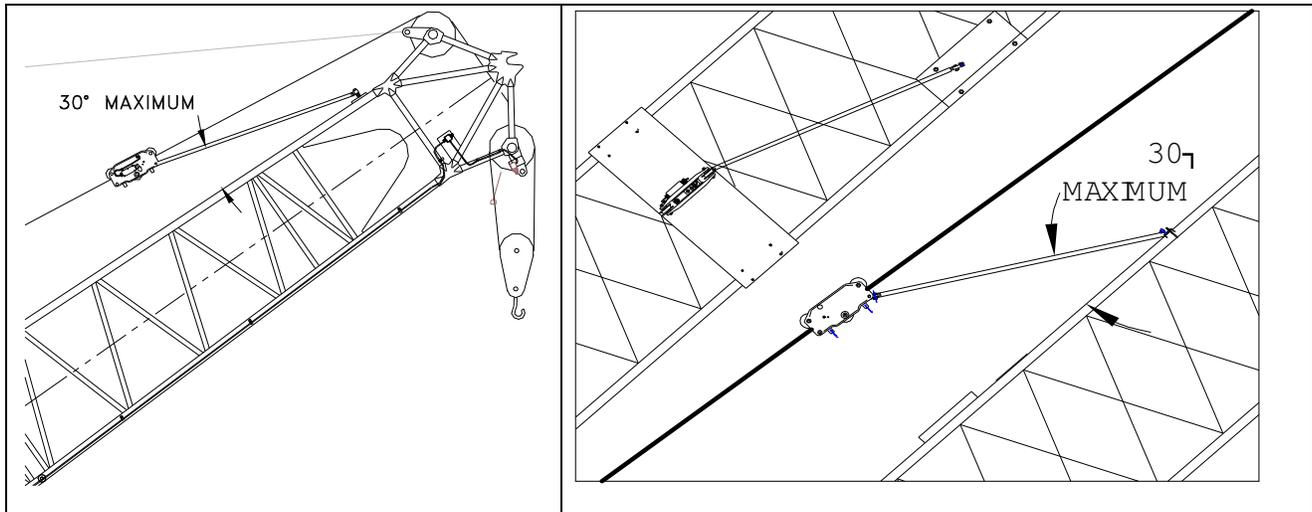

Figure 6. Lattice Boom Linerider Installation.
1. Select a location that the swing arm angle with respect to the boom will not exceed 30°(see Figure 6). The linerider should be located as close to the boom tip as possible.